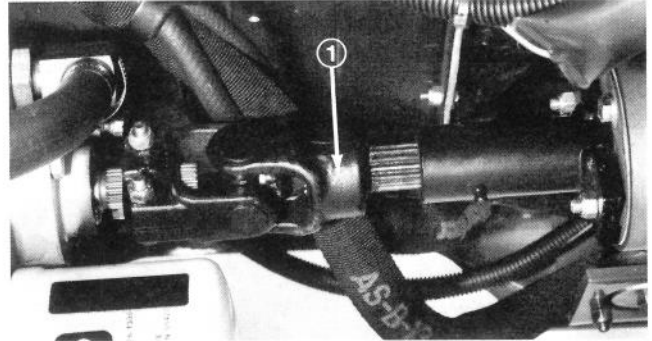

Figure 36
TOWING TRACTION UNIT (Fig. 36 & 37)
1. Loosen and remove capscrews securing the drive shaft to the engine drive coupler. Loosen capscrews clamping drive shaft to transmission (Fig. 36). Remove drive shaft.
5. When towing is completed, reinstall driveshaft as shown in figure 36. The splines are designed to allow assembly only when the two halves of the shaft are properly oriented.